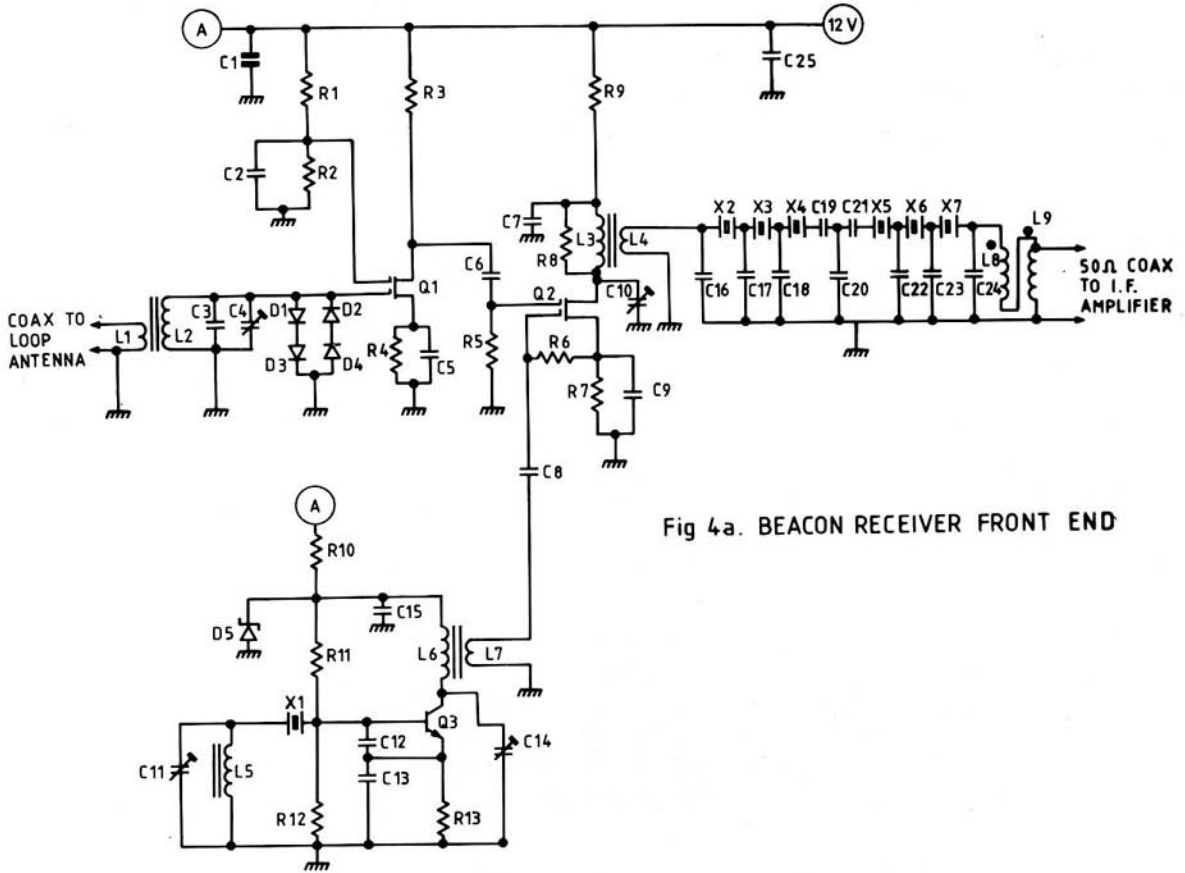

Fig 4a. BEACON RECEIVER FRONT END
The receiver works as follows (see Figure 4a): the 38.4 KHz signal from the tuned loop antenna is fed into the tuned amplifier built around Q1. From here the amplified signal is passed to a mixer built around the dual gate mosfet Q2 where the 38.4 KHz signal is mixed with a 4.469896 MHz signal resulting in a 4.433619 MHz signal, used as the intermediate frequency (IF).